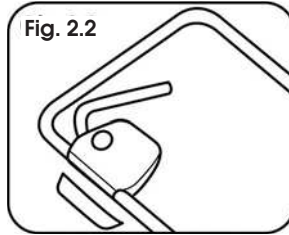

Fig. 2.2
- ✿ Put on the bottom fastening part, see figure 2.2